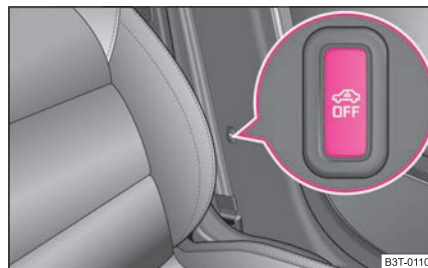

Fig. 35 Button for interior monitor and towing protection monitoring
- Press the button  at the centre column on the driver side ⇒ fig. 35, the symbol  which lights up in the button changes from red to orange.